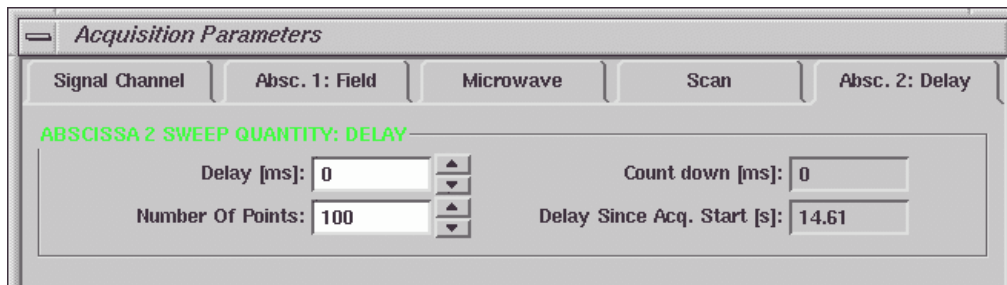

Figure 6-9 Parameters for Absc. 2 Delay.
3. **Set parameters for Absc. 2: Delay.** Click the Absc. 2: Delay tab. Set the Delay time in ms between rapid field scans. Although you can set the Delay time to 0, the minimum delay time is the minimum time necessary for communication and data transfer. The Delay Since Acq. Starts displays the overall time since the acquisition starts. Each slice will be labeled by the time when the acquisition of this slice starts. You need to choose the number of data points or slices on the Y-axis and enter this value into the Number of Points. (See Figure 6-9.)